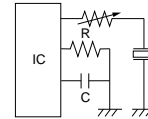

Fig.2
- When distortion, as on (1) above, has occurred, a resistor should be used as shown in Fig. 2. A suitable resistance value should be chosen, preferably 1k Ω - 2k Ω . Instead of this is measure, a diode may also be applied as shown in Fig. 3.